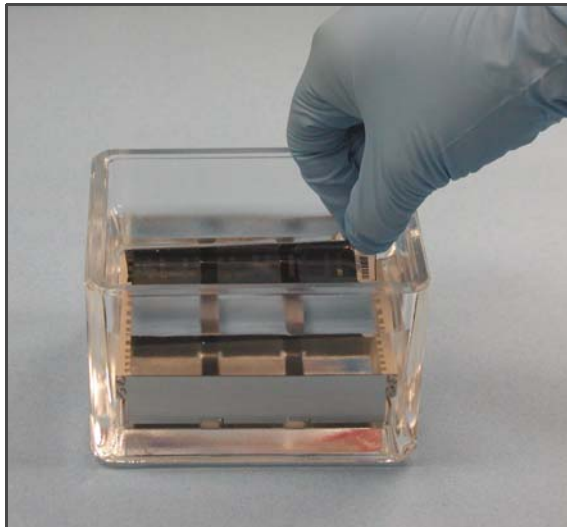

Figure 31 Placing BeadChip into Diluted Wash E1BC Buffer
- Using tweezers or powder-free gloved hands, transfer the BeadChip to the slide rack submerged in the staining dish containing 250 ml Wash E1BC solution (Figure 31). This is the staging area to hold the BeadChips until all coverseals have been removed under the buffer.